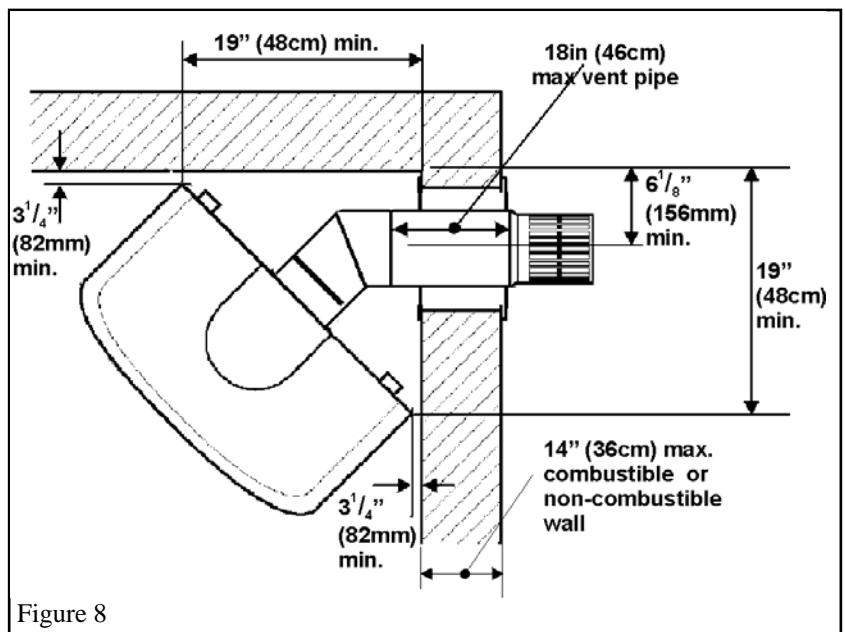

Figure 8
4.2.5. Corner location, horizontal vent run only (Fig. 8)
Be aware of the limited maximum vent pipe length and wall depth for this type of installation – See figure 8.